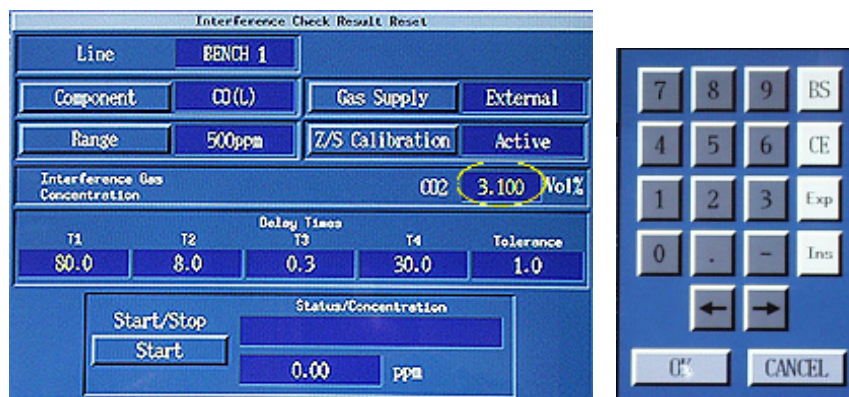

Figure 13
- 115 Click in the yellow user changeable field for “CO2.” Use the on-screen keypad to enter “CE” and to enter the value noted in Step 102. See Figure 13. On the keypad, click on “OK.”